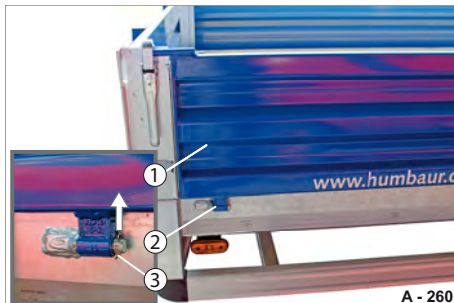

Fig. 132 Unlocking the hinge
- ▶ Pull the split pin (Fig. 132/3) out of one of the platform gate hinges (Fig. 132/2).